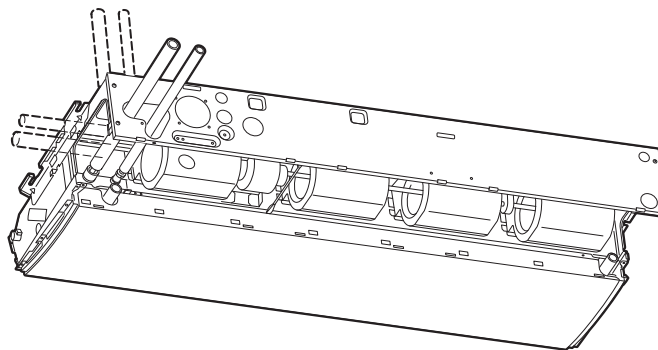
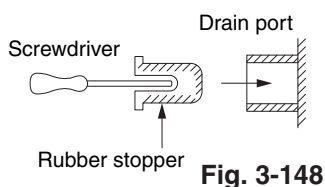

Fig. 3-145
Fig. 3-148
- * If the drain hose is routed through the left side, refer to Fig. 3-145, and follow the procedure above to install the hose. Re-attach the rubber stopper that was earlier removed onto the right side. (Fig. 3-148)